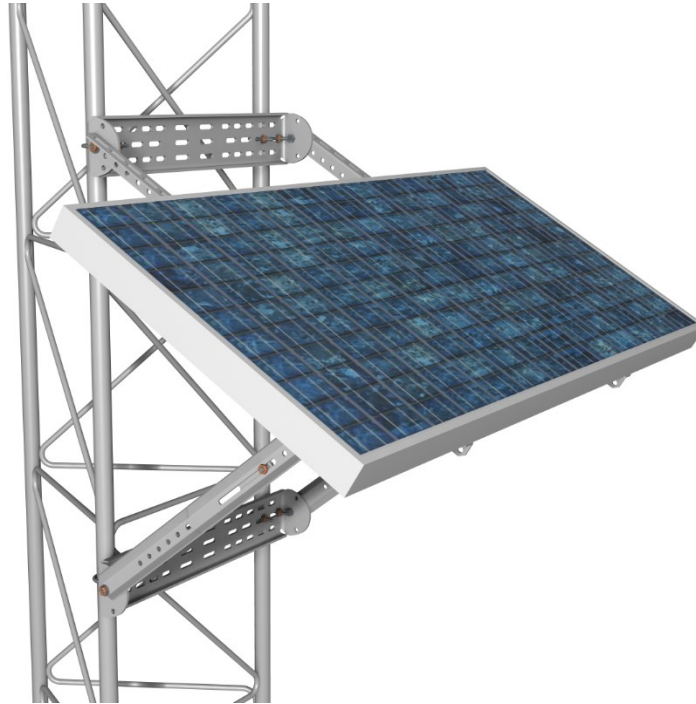

FIGURE 3-7. Extended mount tower installation
- (Mounting on towers only.) With the help of a second person, secure the top bracket at the desired height on the tower using U-bolts, washers, lock washers, and nuts (FIGURE 3-7 (p. 10)). Raise the lower bracket until the angle decal on the upper bracket indicates the correct angle for the current latitude. Secure the lower bracket to the tower with U-bolts, washers, lock washers, and nuts. Fully tighten all nuts and bolts.